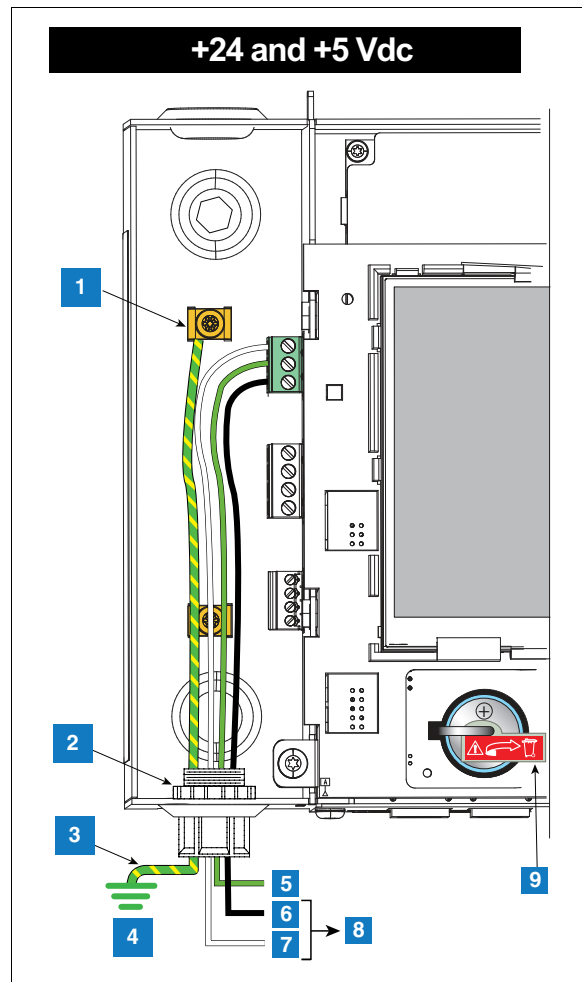

Figure 7. Wiring DC Power to the Console
2. Connect the DC power wires as shown in Figure 7.
LEGEND FOR NUMBERED BOXES IN Figure 7